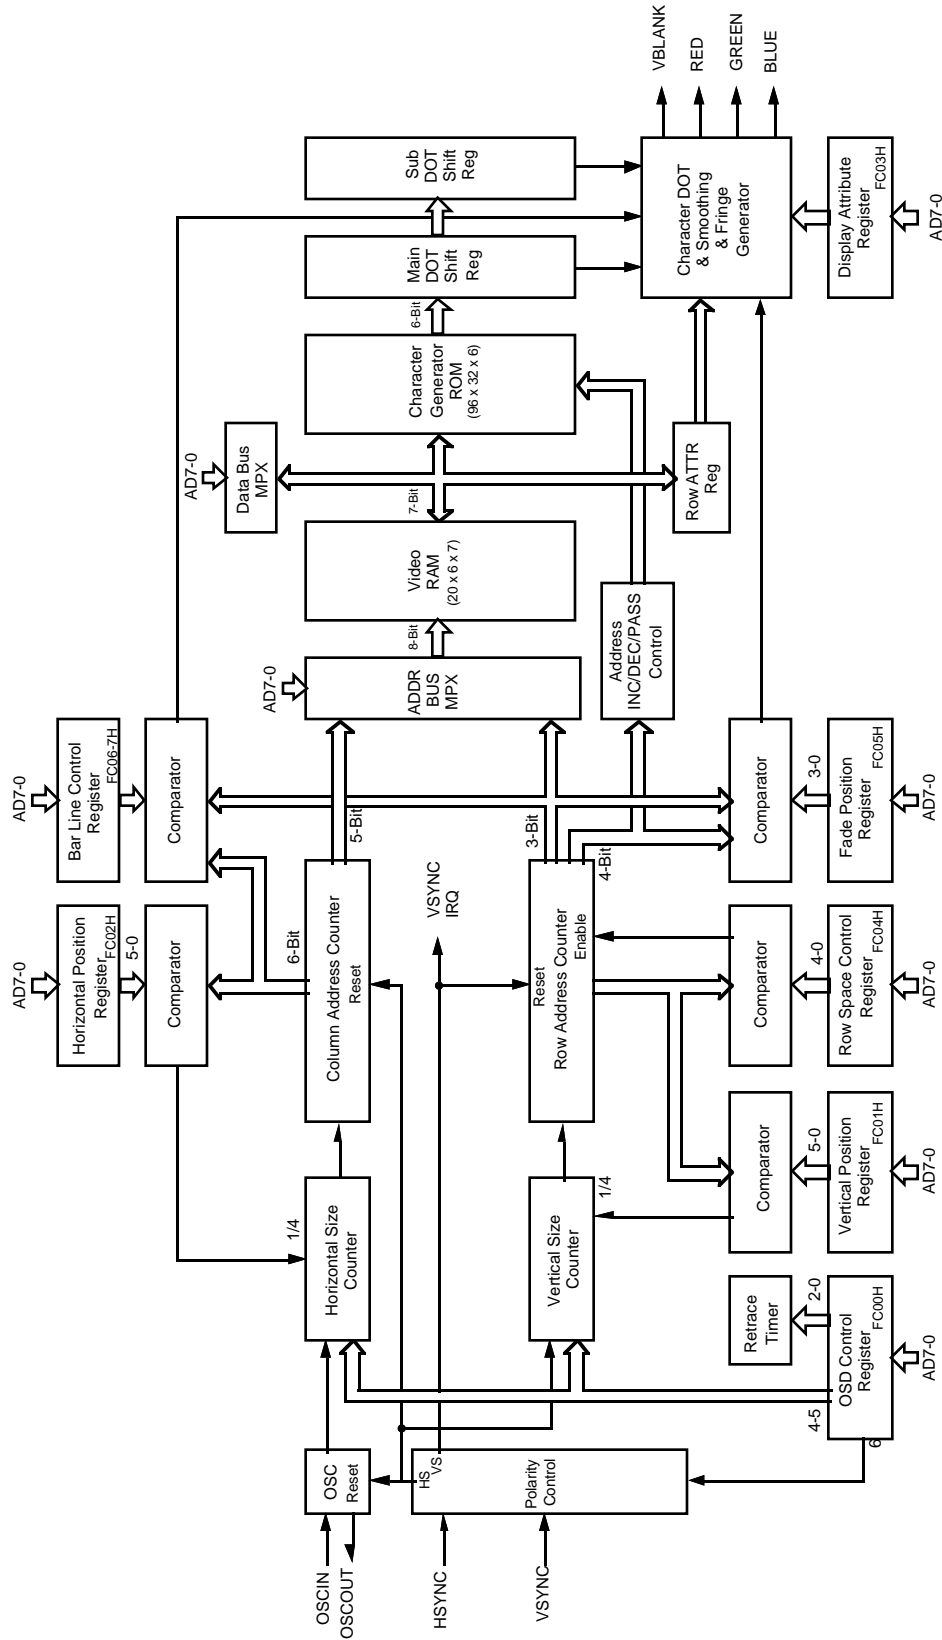

Figure 10. On-Screen Display Block Diagram
**On-Screen Display (OSD).** The OSD has a capability of displaying 6 rows x 20 columns of 96 kinds of characters for high resolution (11 x 15 dots) patterns (Figures 10 and 11).